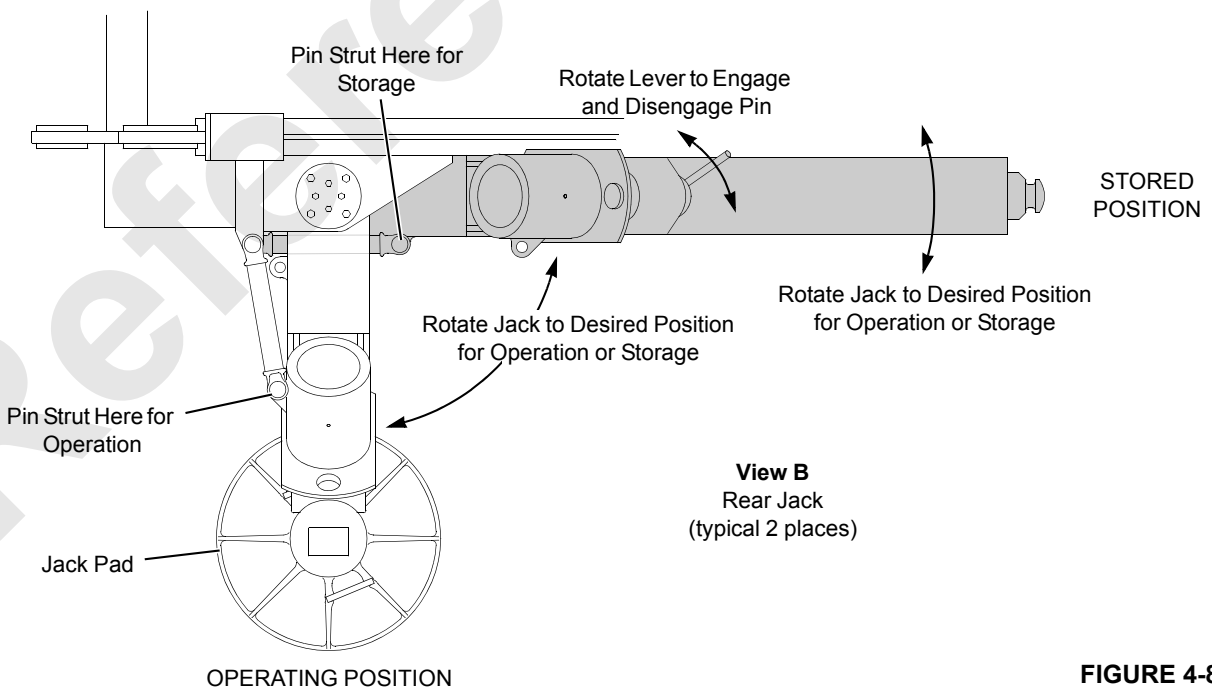

FIGURE 4-8
1. Rotate four jacks to the operating position (see also Figure 4-8) and pin the struts to the jacks.